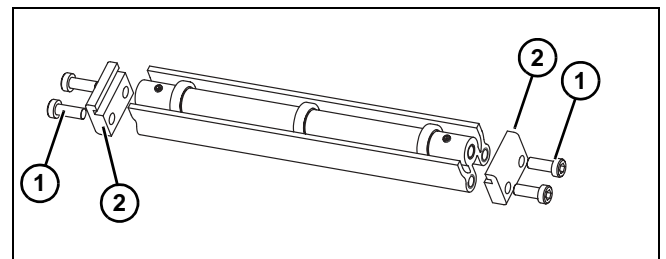

Figure 16
- Locate return rollers. Exploded view shown in Figure 16.
- Remove screws (Figure 16, item 1) and clips (Figure 16, item 2) from roller assembly.